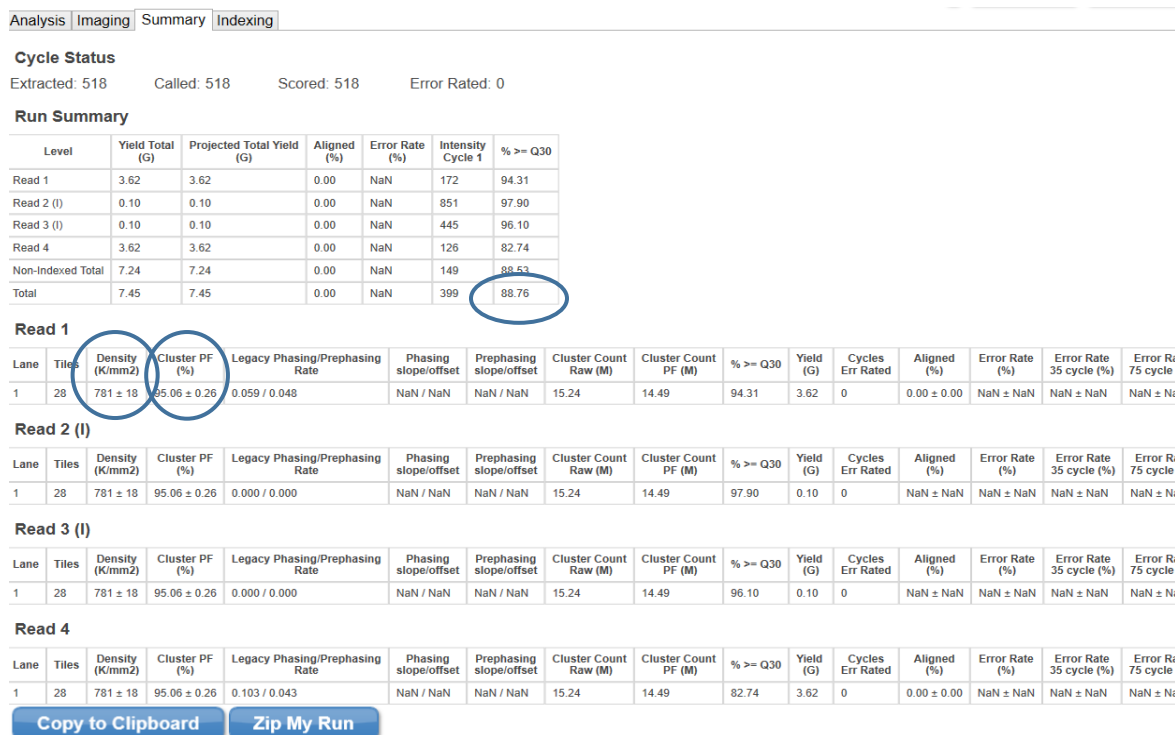

Figure 1. Screenshot of the SAV Summary Tab highlighting the key run metrics to be reviewed
- 9.8.1. Upon run completion, confirm that the sequencing run meets basic quality metrics, which will be shown on the main sequencing screen. These run metrics may also be found on the Summary Tab of SAV, see Figure 1. Compare Q30, cluster density and clusters passing filter to PulseNet’s recommended run metrics thresholds in Table 5.